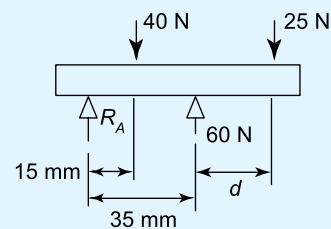

Figure 6.9
- The forces acting on a beam are as shown in Figure 6.9. Neglecting the mass of the beam, find the value of R_A and distance d when the beam is in equilibrium.